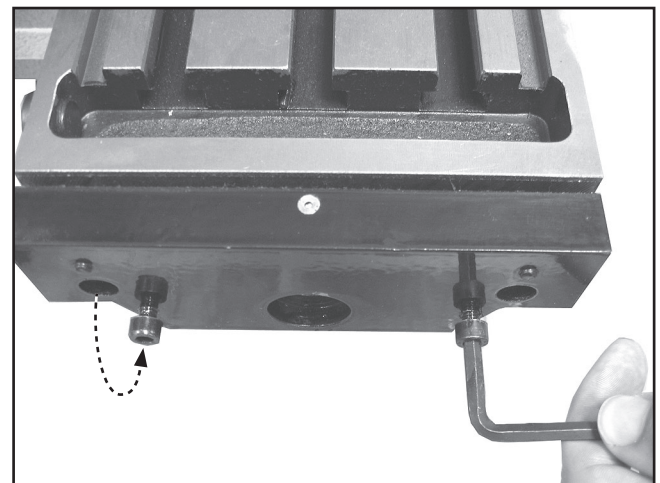

Figure 7. End plate removal.
11. Thread the cap screws into the power feed mounting holes (**Figure 7**), and in an alternating fashion, tighten the screws to remove the table end plate.